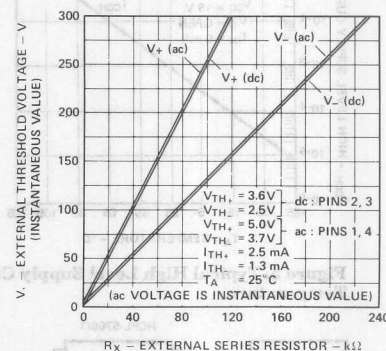
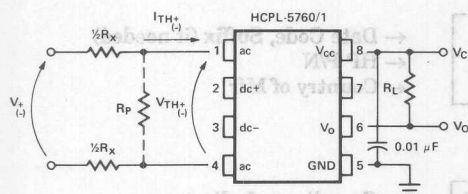

Figure 10. Typical External Threshold Characteristic,  $V_{\pm}$  vs.  $R_x$
Figure 11. External Threshold Voltage Level Selection
The HCPL-5760, HCPL-5761, or 5962-8947701PX optocoupler has internal temperature compensated, predictable voltage and current threshold points which allow selection of an external resistor,  $R_x$ , to determine larger external threshold voltage levels. For a desired external threshold voltage,  $V_{\pm}$ , a corresponding typical value of  $R_x$  can be obtained from Figure 10. Specific calculation of  $R_x$  can be obtained from Equation (1) of Figure 11. Specification of both  $V_{+}$  and  $V_{-}$  voltage threshold levels simultaneously can be obtained by the use of  $R_x$  and  $R_p$  as shown in Figure 11 and determined by Equations (2) and (3).